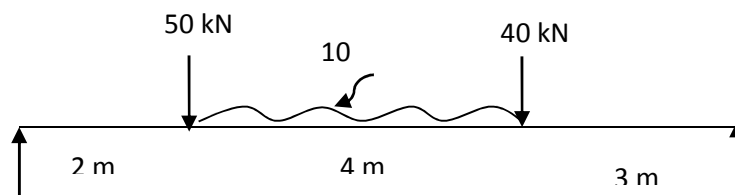

Fig.2
3. Draw the shear force and bending moment diagrams and find the maximum bending moment for the beam shown in Fig.2.